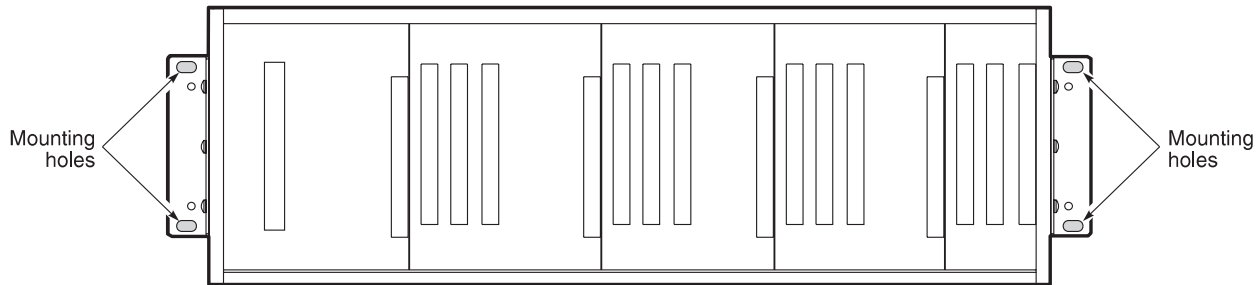

Figure 3. Mounting the FCS-719 COT Shelf
- 1 Align the shelf (Figure 3) universal mounting brackets with the four vertical mounting holes.